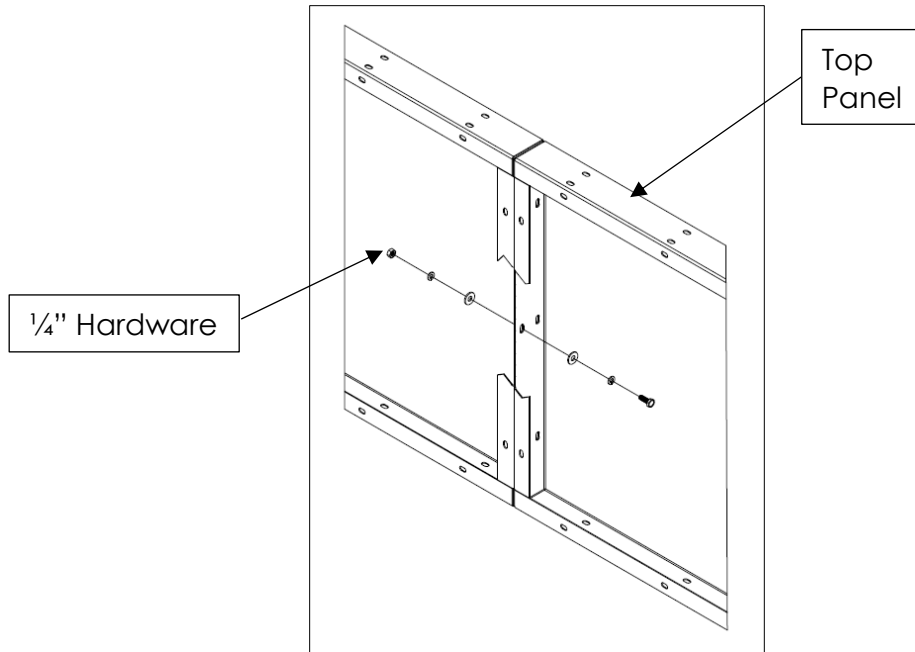

FIG. 5
2. Assemble top panels together (Skip this step for 8' W booths). The top panel assemblies consist of two panels. The outside edge of the panel is 5.25" to the center of the mounting slot. The inside edge is 4.00" to the center of the mounting slot. The outside edges of the panels do not have any mounting slots (see **FIG. 4**). The inside ends of each top panel are bolted together in three places. If the top panels are insulated, bolt through the holes' nearest flange (See **FIG. 5**). Make sure sides of panels lay flush with each other.